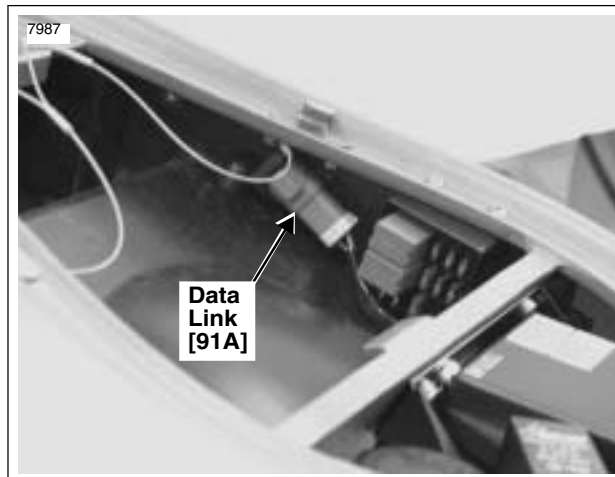

Figure 4-6. Data Link Connector [91A]
See Figure 4-6. Using the Scanalyzer requires access to the data link connector located in the trunk.
3. See Figure 4-6. Locate the data link connector [91A] in the trunk.